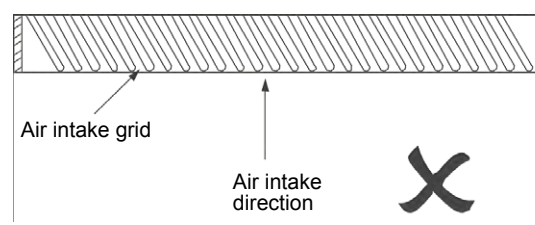

Figure 3.11
- 2) There shall not any angle between the air grid angle and the air intake direction. Otherwise, it may increase the noise. Figure 3.11 is the incorrect making method of the air intake grid.